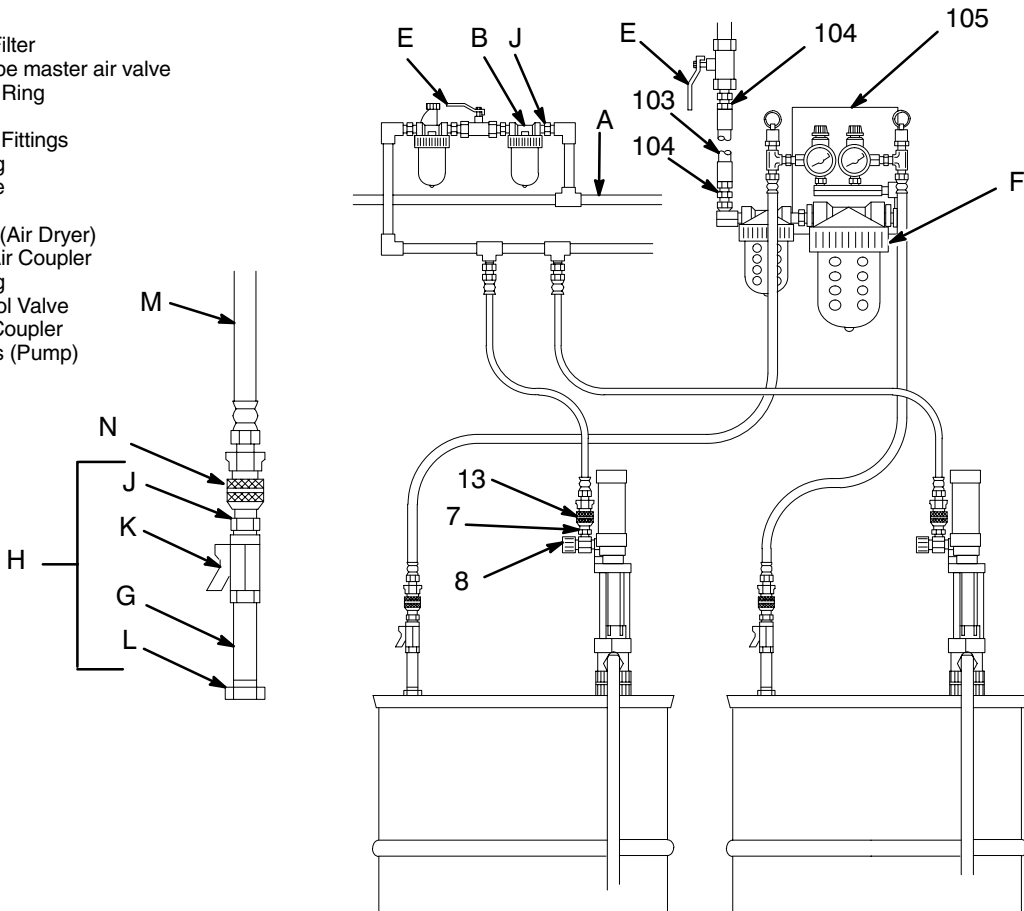

Fig 3
5. Connect an air supply hose to the 1/4 npt air line coupler (13). Air supply hoses (103) are supplied in Kit 217381. See Fig 3, page 6.
2. Mount the Air Dryer (105) in any suitable location. Refer to manual 307548 for the mounting hole diagram. See Fig 3.
3. Unscrew the air dryer ring (F) to remove the bowl. See Fig 3. Remove the filter and fill the bowl with the desiccant, provided. Reassemble.
5. Connect the dry air hoses (M) to the identically labeled drum fittings using the special pin fitting (J) and coupler (N). See Fig 3.
6. Attach a bushing (104) to one end of two of the air supply hoses (103) and attach a bushing to each end of the third air hose. See the Parts Drawing on page 13.
8. Connect the hose with the two bushings between the 1/2 npt(f) air inlet of the Air Dryer and a bleed-type master air valve (E), required. Then connect the main air supply line to the air valve.
1. Disconnect the hose coupler (N) from the Air Dryer drum fittings (H). See Fig 3.
2. Leave the ball valve (K) open for a few minutes to release the air pressure in the drum, then close the valves.